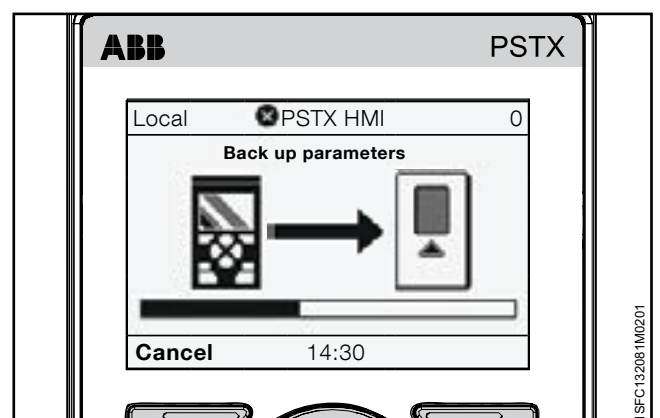

Figure 6.26
4. Push "Select" for the upload of the parameters. This shows as in **Figure 6.26**.